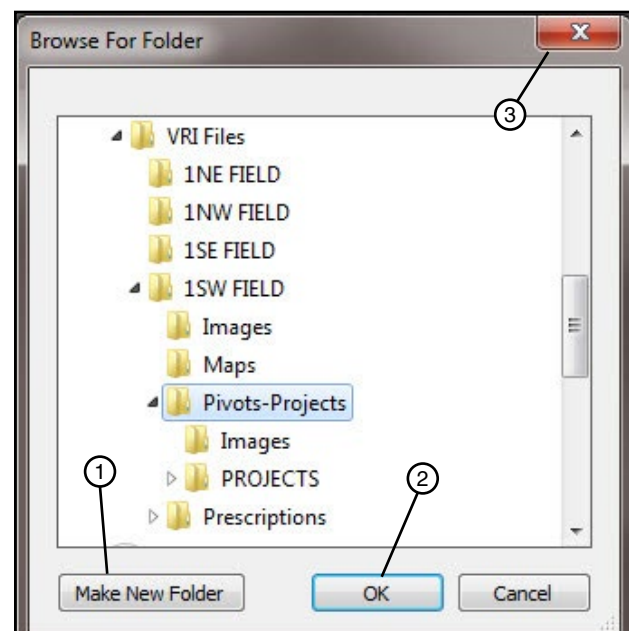

Figure 42-2 1. Make New Folder Button
- If you selected **Save to file** and clicked **Continue**, the Browse For Folder pop-up screen appears. See Figure 42-2.